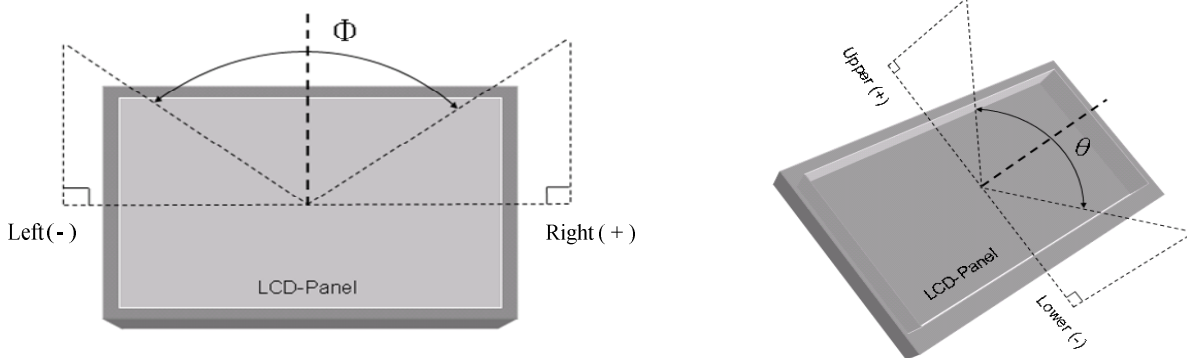

Fig.8-1 Definition of Viewing Angle
*2) Definition of Viewing Angle(θ, ψ), refer to Fig.8-1 as below :